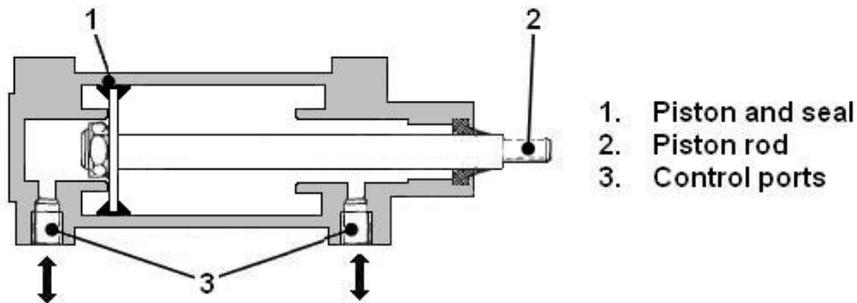

Figure 33 Double-acting Cylinder
**83. Double-acting Cylinder.** The double-acting cylinder (Figure 33) is used where work is required on the advance and return movements of the piston. Input pressure at either port causes the piston to move away from that port. When the pressure is removed, the piston stops and remains static until pressure is again applied to one of the input ports.